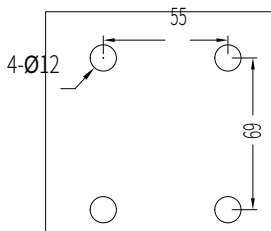

Figure 1
The wiring is in accordance with figure 1, the lamp is equipped with a 5-15P (AC 125V) plug, it needs to be matched with 5-15R receptacle.
1. Use a chalk or sharp tool to mark signs on the top of the ceiling, then drill holes on the signs by electric drill (Figure 1).